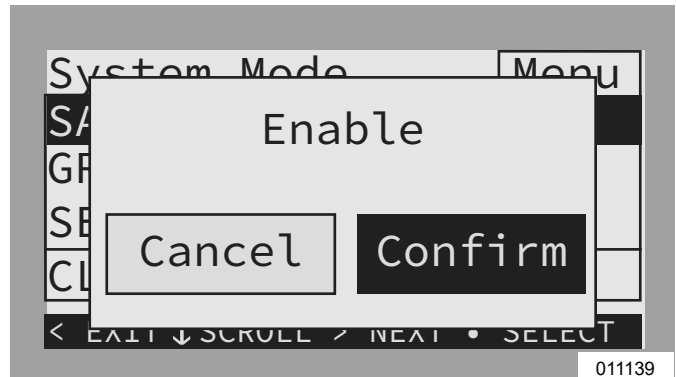

Figure 6-5. Selecting System Modes (3 of 4)
5. See Figure 6-5. Arrow right and press the center button to select Confirm.